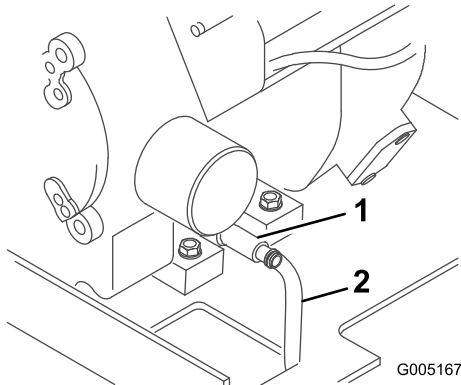

Figure 22
- Place one end of a hose on the drain valve and the other end in a pan (Figure 22).
- Open the drain valve by turning it counterclockwise, pulling out as you turn it (Figure 22).